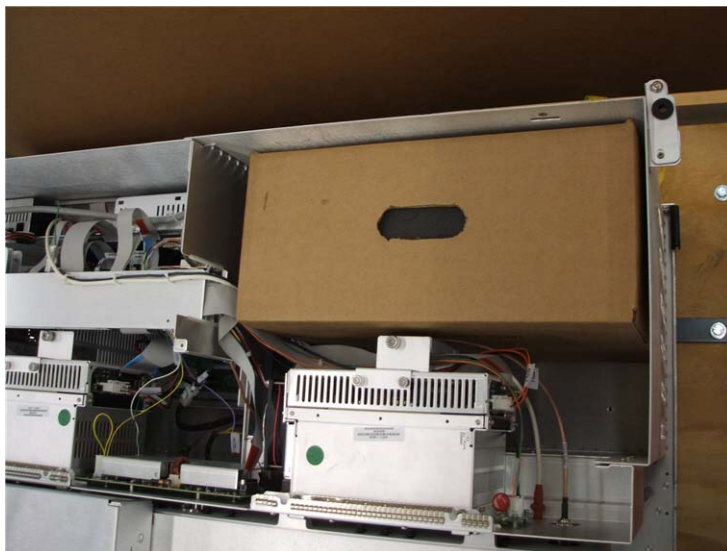

Figure 14 Packaging for AJS ESI source for 6460. For 6490, the AJS ESI is shipped outside of the instrument chassis.
- 2 Remove the AJS ESI source from the packaging inside the instrument chassis next to the e-Module. See Figure 14.